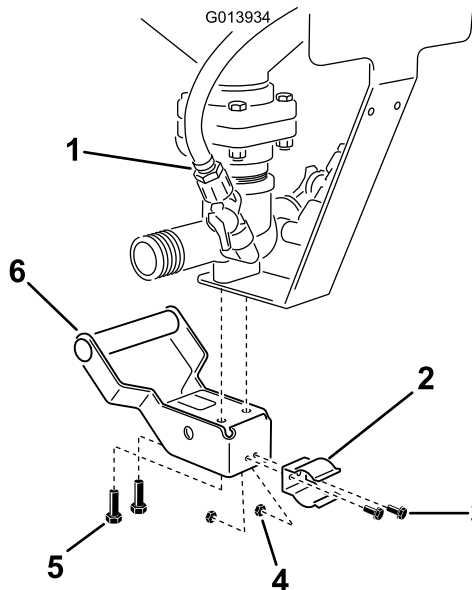

Figure 16
2. Locate and loosen the two bolts. Install the handle assembly to the eductor and secure it using two bolts (Figure 16).